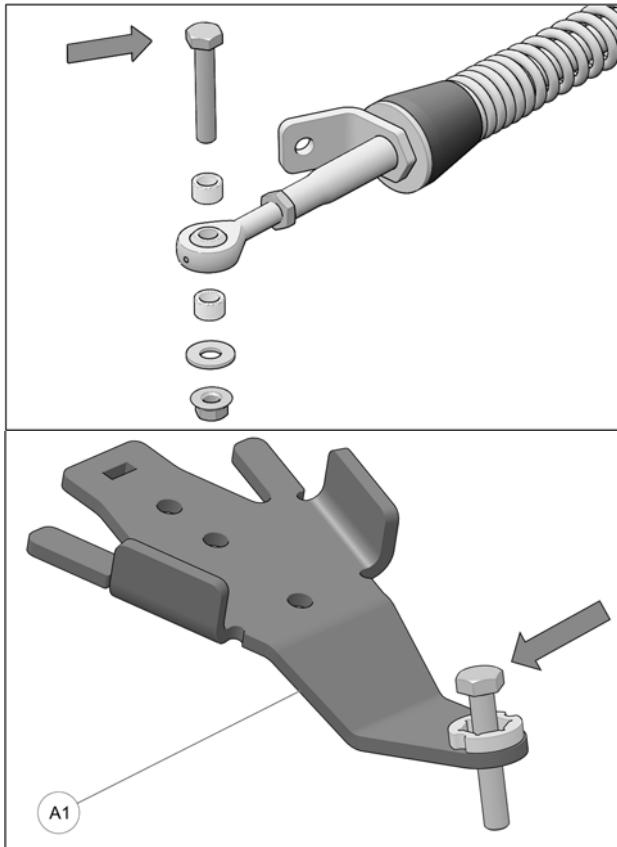

Fig. 15
4. Remove bolt, washer and bushings from front stabilizing rod end and insert bolt in front anchor bracket (**A1**) as shown in Fig. 15